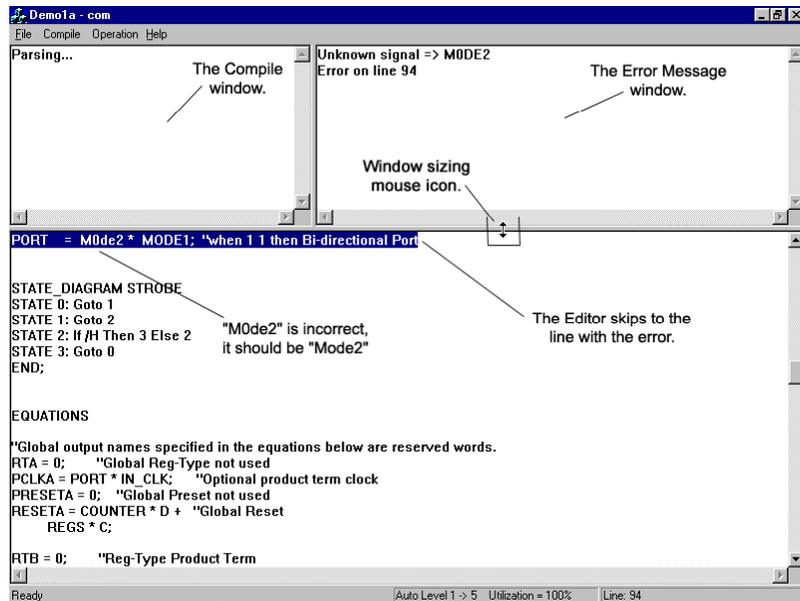

Figure 3-31 Encountering a compilation syntax error
**Message....**This window is in the upper left hand corner of the program display. It shows any errors that were encountered during the compilation process. Figure 3-31 shows an example of a syntax error in which an unknown signal "MODE2" was encountered in the macro definition (the correct signal is "Mode2"). Once an error is encountered the compilation is aborted, and the text editor is opened automatically to allow the highlighted error to be investigated or analyzed. Note that the highlighted line sometimes does not contain the error. This may be due to an incorrect format for comments in previous lines. Please refer to Chapter 4 for more information on the Comment format.